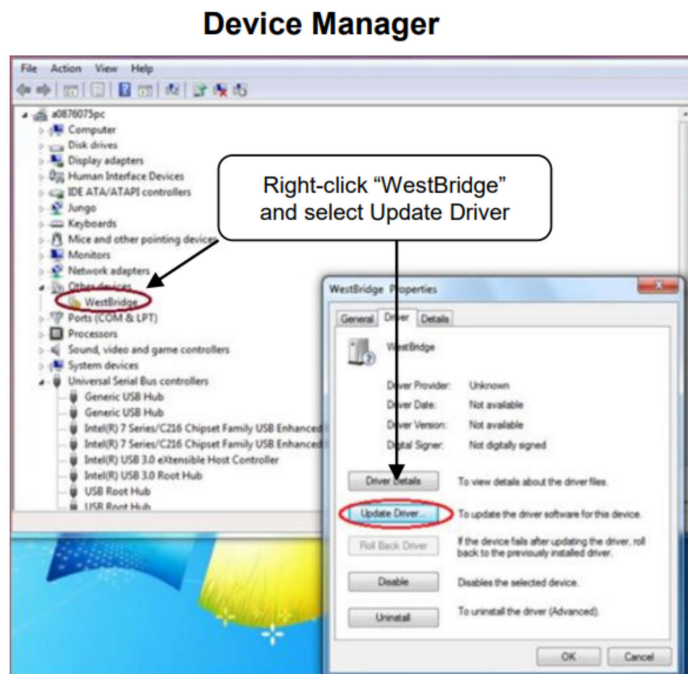
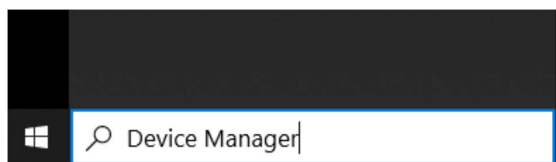

Figure 3-3. Open Device Manager
Figure 3-4. Update Driver With Device Manager
3. Open the Windows Device Manager, as shown in Figure 3-3, and right-click on the *WestBridge* folder in the Device Manager window and select the *Update Driver* button (see Figure 3-4).